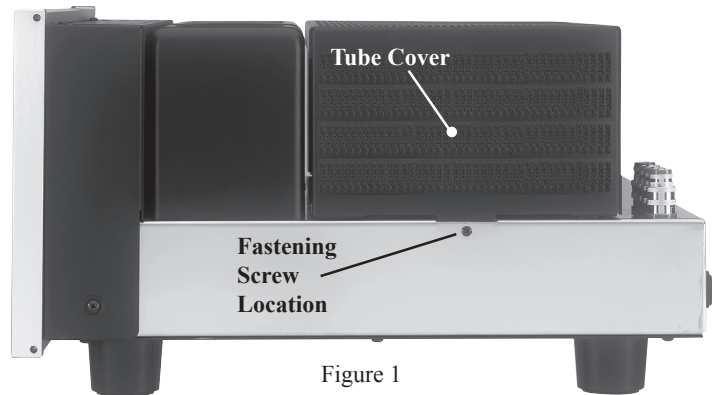

Figure 1
1. Orient the MA2275 so the right Side Panel is facing you. Refer to figure 1.
Carefully remove sufficient insulation from the cable ends, refer to figures 1, 2 & 3. If the cable is stranded, carefully twist the strands together as tightly as possible.